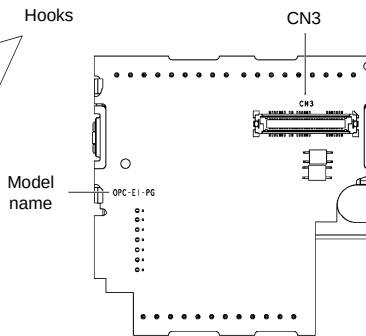

Figure 1.2
- (1) The EFC interface card is the model you ordered.
- (2) The EFC interface card is not damaged during transportation--no defective parts or lacking parts.
- (3) The model name "VXR-EFC" is printed on the EFC interface card. (See Figure 1.2.)
- (4) The EFC interface card is applicable to your inverter.
- (2) If the interface PCB is installed on the inverter, push the hooks provided on both ends of the interface PCB and pull it up and out of the inverter with both hands. (Store the removed interface PCB for future use.)
- (3) Connect the CN3 connector (shown in Figure 1.2) on the EFC interface card to the connector on the inverter until it clicks into place.